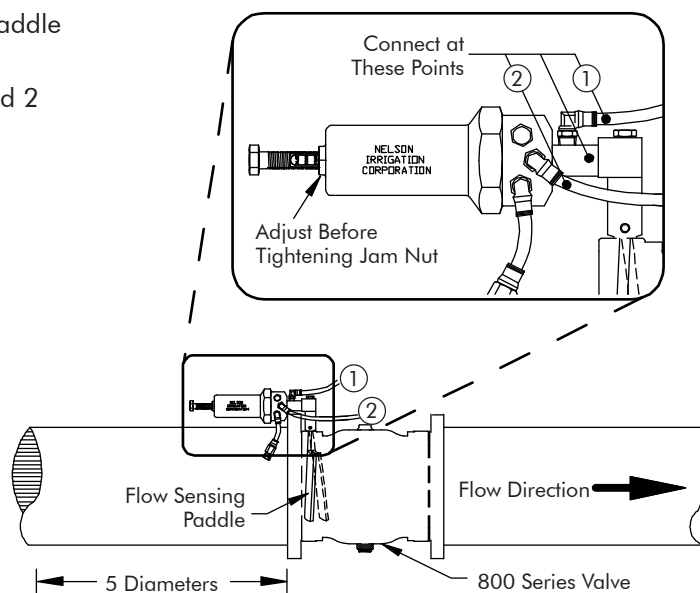

Figure 1
3. Connect the control tubing marked 1 to fitting 1 and 2 to fitting 2 (see Figure 1).